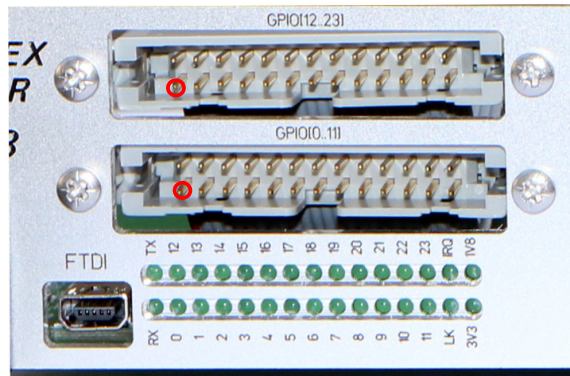

Figure 2-11: Front Panel GPIO connections
- connected to a header on the board to allow easy access for measurement This header, in turn can be connected with a short ribbon cable to a corresponding header on the front panel (Figure 2-11). A series protection resistor of 470 Ohm is included on each signal to provide a simple level of protection in the case of a short circuit at the front panel